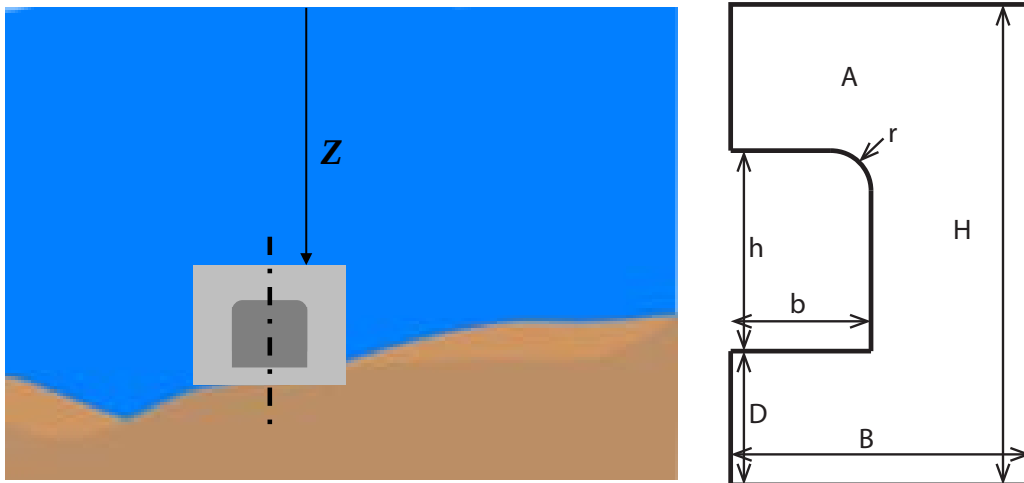

Figure 1: a) A tunnel submerged in water and b) a close-up of half of the tunnel cross section
We shall in this project study the stress and displacement field around a concrete tunnel submerged in a river at the distance Z (to the top of the tunnel) from the average water surface, cf. Figure 1.
- Determine and state appropriate boundary conditions** for the half-domain A shown to the right in Figure 1. Please consider the tunnel to be firmly attached to the ground. **Give the strong form of the problem at hand**, in particular, choose whether the situation at hand is relevant to the **plane strain or the plane stress assumption**.